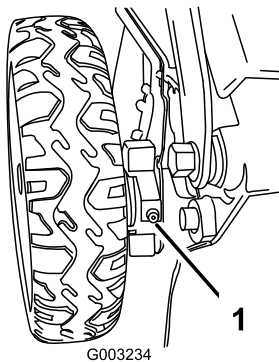

Figure 33
1. Wipe the grease fittings just inside the rear wheels with a clean rag (Figure 33).